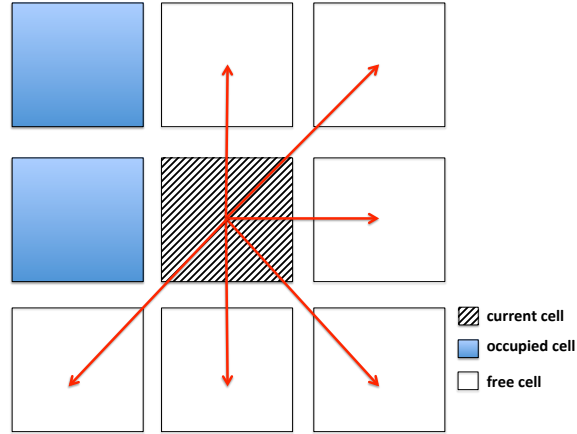

Figure 2: Rules of robot's movement.
- The robot can move to any of its adjacent cells in case it is free, therefore, it can move potentially in 8 directions. In Figure 2, the possible movements of the robot are only in 6 directions.